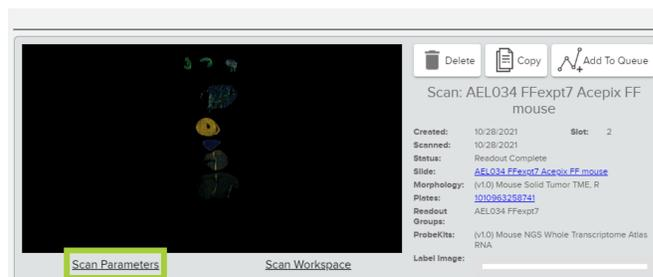

Figure 18: Open Scan Parameters
1. Open the **Scan Configuration** window by clicking **Scan Parameters** on the scan's card in the gallery (Figure 18).